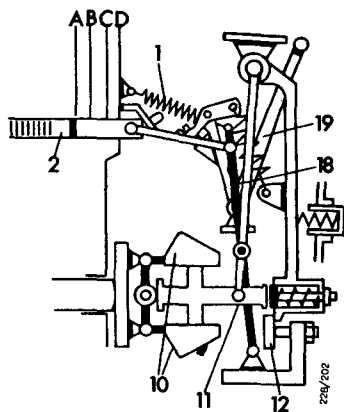

Fig. 2 Starting the engine
Starting the engine, fig. 2:
- a) This governor type has so-called internal maximum load stop, i.e. the screw with which max. control rod opening is set is to be found inside the governor, see 12 in Fig. 1. This implies that the control rod always runs towards the cold start position when the engine has been stopped, see Fig. 2 and "Starting the Engine". If the "spill cut-off" method (Wilbär) is then used for setting the pump at its due degree marking, on the engine, a faulty setting will occur because of the cold start grooves in the pump elements. This can be avoided, if the stop lever is moved half way towards the stop position and kept there during the setting.